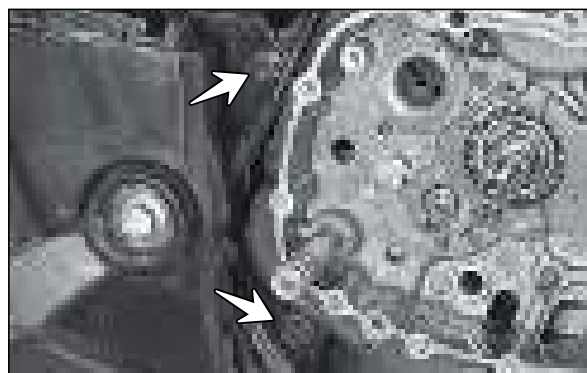

Fig. 3.141
- Remove the hexagonal flange bolt (M18x100 - 1 No.) and (M8x120 - 1 No.) from the rear mounting of the engine assembly. (Fig. 3.141)